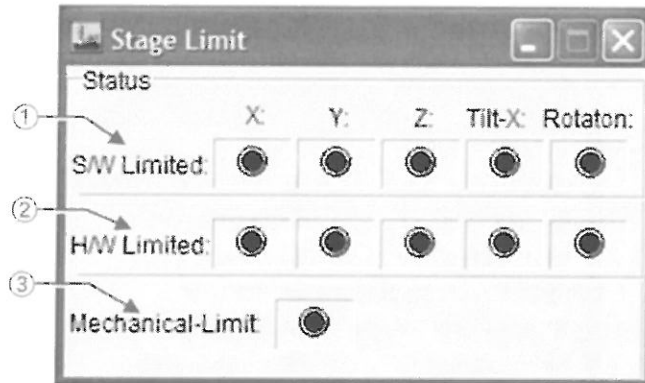

Fig. 4.66 Stage Limit window
It is displayed when you select Stage Limit from the Maintenance menu in the TEM Controller menu bar (Fig. 4.20-①) (Fig. 4.66).